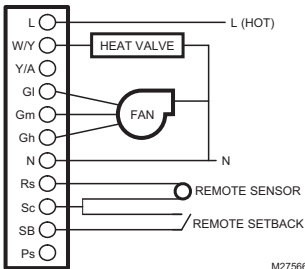
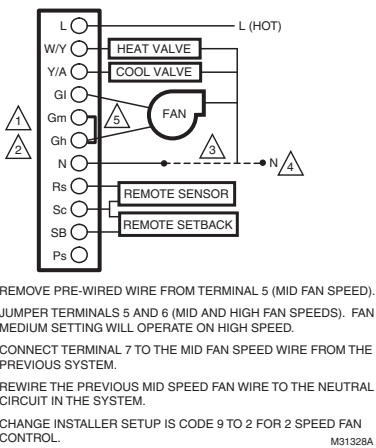

Fig. 7. Two pipes Heat-only wiring diagram
Fig. 13. Wiring diagram when missing a wire for electromechanical retrofit (120/240/277 Vac shown).
- TB6575A1016, TB6575B1000 and TB6575C1016 fan coil thermostats, which are 120/240/277 Vac powered. Refer to Fig. 7–Fig. 13, beginning on page 8.